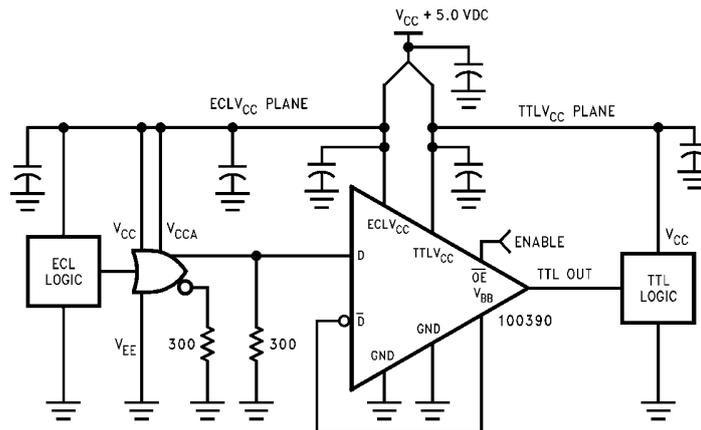

FIGURE 5.
7. Figure 5 illustrates typical single-ended input operation.